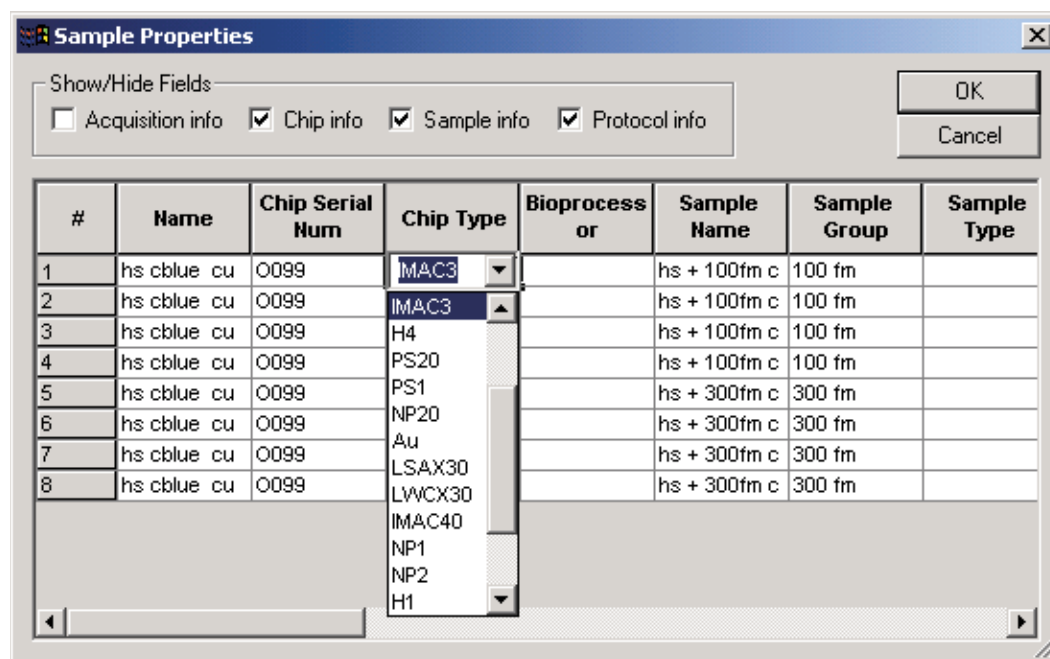

Figure 5-15: The *Sample Properties* dialog.
1. Select **Sample Properties...** from the **Experiment** menu. The **Sample Properties** dialog will open (Figure 5-15).
3. You may edit any of the sample properties that are not read-only (the acquisition information is read-only). If the experiment you are editing is saved in the current database, you may select from a list of existing sample properties in the database (as shown for **Chip Type** in Figure 5-15).